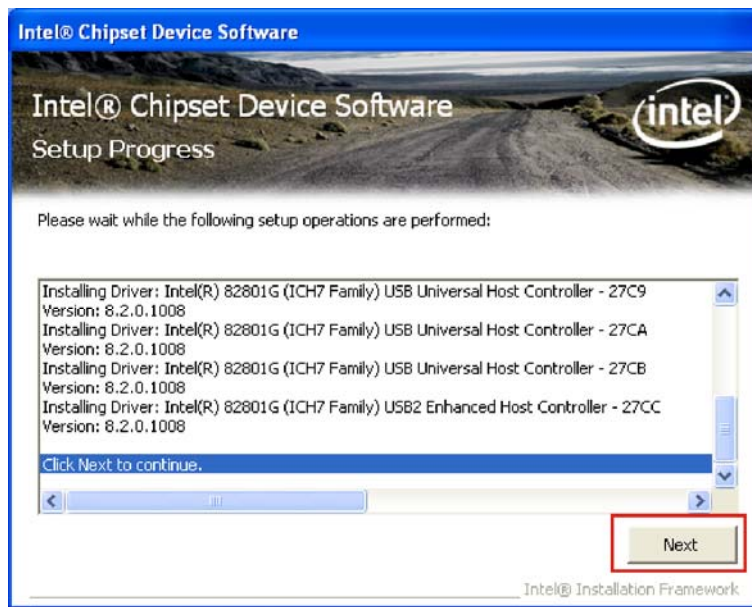

Figure 7-7: Chipset Driver Setup Operations
Step 10: **Setup Operations** are performed as shown in **Figure 7-7**.